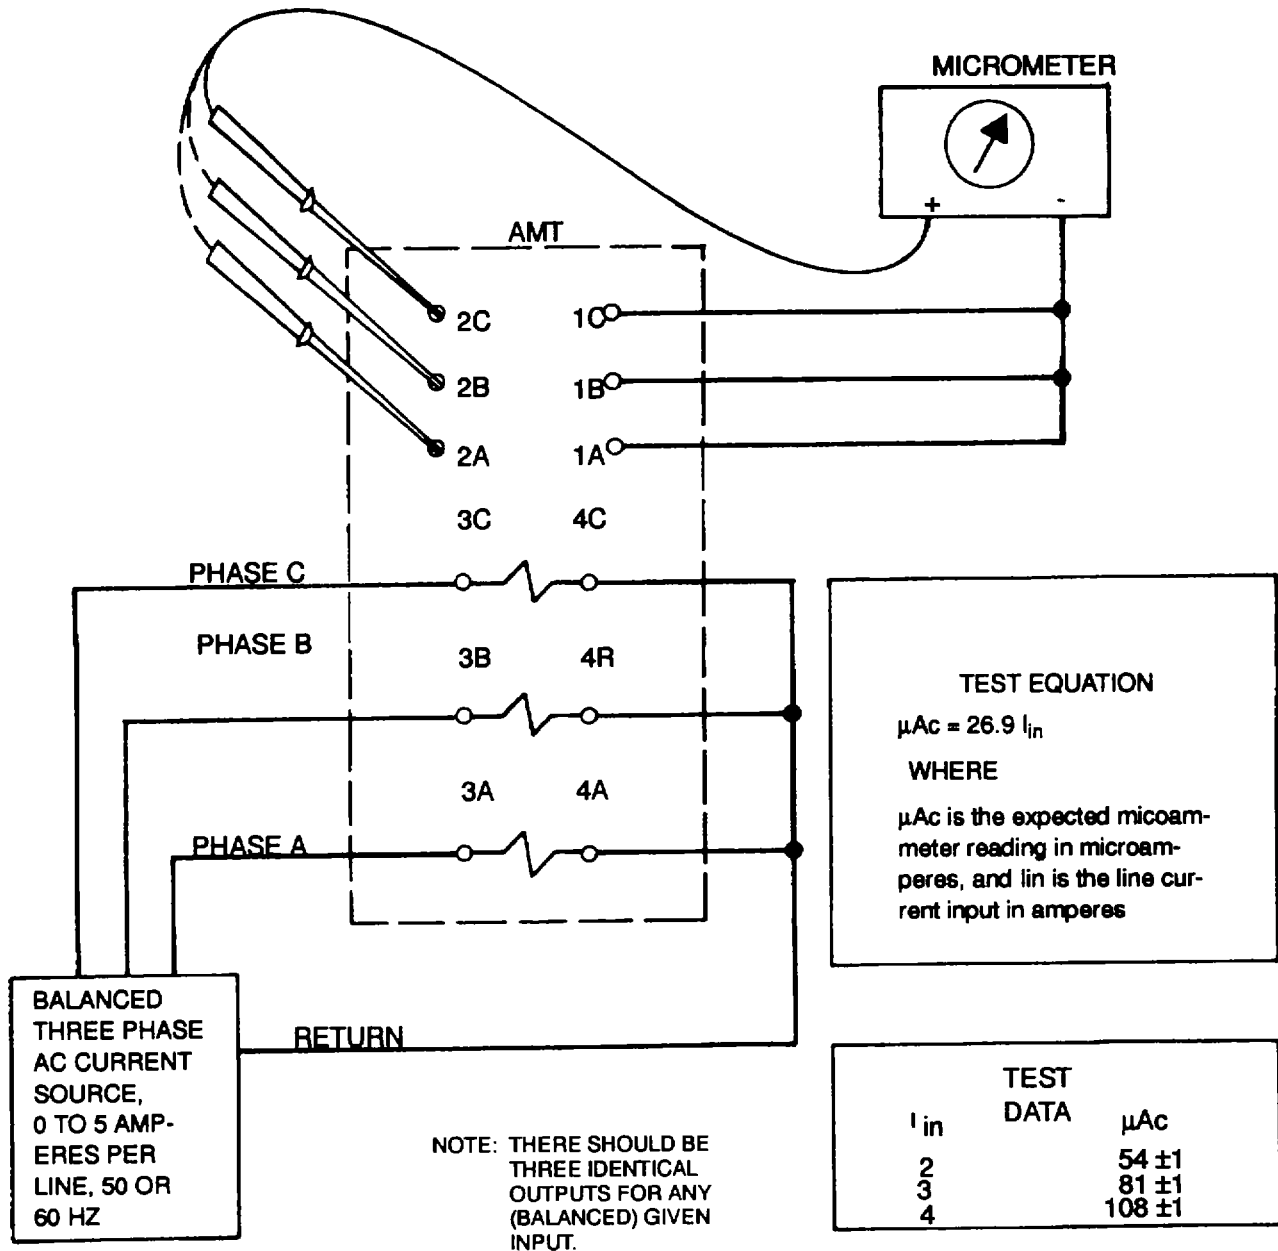

Figure 10-10. Current Transducer AMT, Bench Test Setup
- (1) Connect current transducers AMT into the test setup shown in Figure 10-10.
- (2) Apply balanced, three phase AC current, 50 or 60 hertz, at 2, 3, and 4 amperes. Record microampere output readings for each input current level.
- (3) Verify that microampere output readings at AMT terminals 2C, 2B, and 2A are always identical for a given current input. For example, when input is 2 amperes, output should be 54 microamperes at 2C, 54 microamperes at 2B, and 54 microamperes at 2A.
- (4) Verify that microampere output (μA) agrees with current input (lin) as shown in TEST DATA section of Figure 10-10.
- (5) If desirable to test at input current levels other than 2, 3, or 4 amperes, use TEST EQUATION section of Figure 10-10 to compute expected microampere output (μA) for a given current input (lin).
- (6) If test results indicate transducer AMT is defective, replace. If not, reinstall. Refer to step d, below.